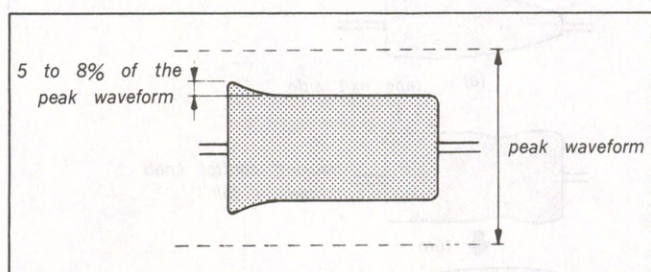

Fig. 7-46.
Note: After tightening the No.5 guide lock screw ❶, confirm that the waveform is as shown in Fig. 7-46.
Note: If such a waveform as shown in Fig.7-46, if it takes the waveform much time to turn flat as before with the tape pressed down at the entrance, or if it does not turn so, adjust it as follows.